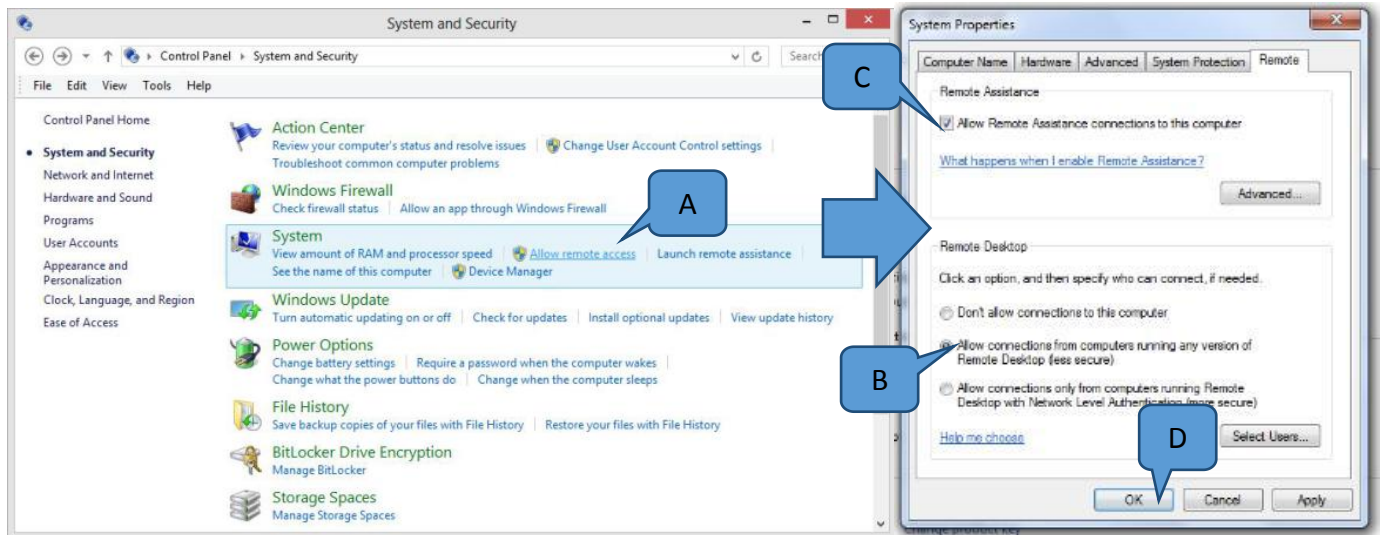

Figure 10 System Properties
11. Return to “System and Security” tab and select “Allow Remote Access” at “System” tab. At the Remote Desktop, select “Allow connection from computers running any version of Remote Desktop (less secure)” and click ok as Figure 10.